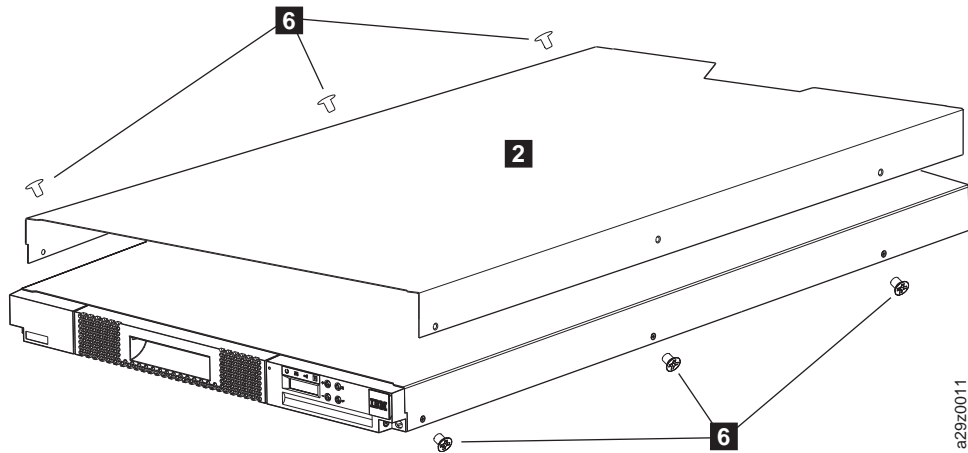

Figure 162. Removing the desk side cover
- b. Remove the flat-head screws **6** on each side that secure the deskside cover to the library, and remove the deskside cover **2** (Figure 162 on page 171).